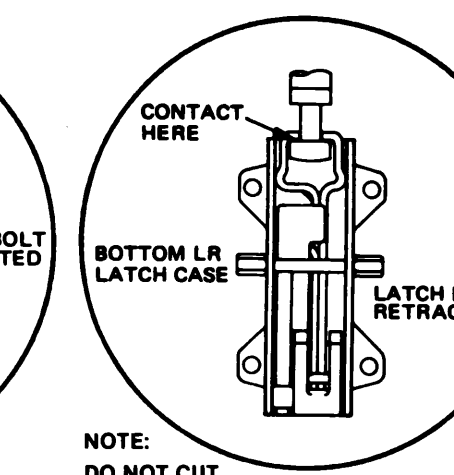

FIG. 6
- C. Adjust rod so rod connector fits as shown. (Fig. 6.)